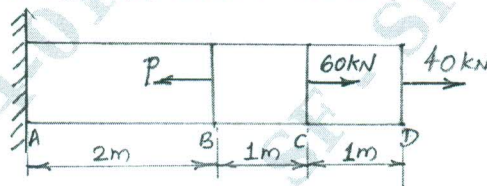

Fig.Q1(b)
b. Determine the magnitude of the load P necessary to produce zero net change in the length of a straight bar shown in Fig.Q1(b). Area $A = 400 \text{ mm}^2$.